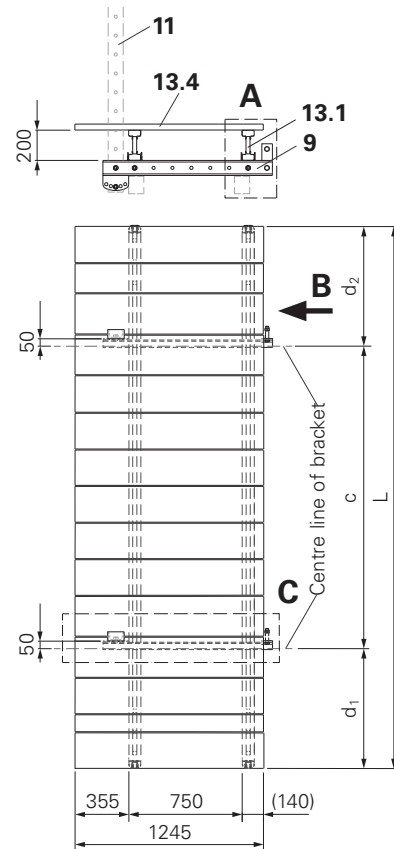

Fig. A1.19
2. Cut planking to the required size. (Fig. A1.19)